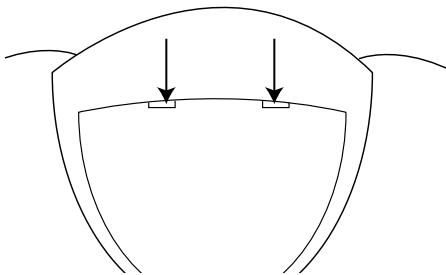
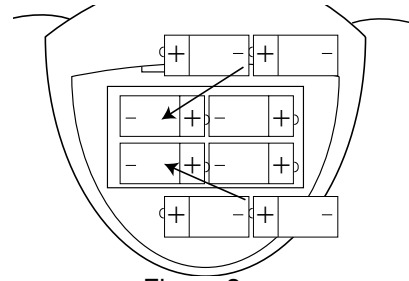

Figure 1
Figure 2
Remove the Battery Compartment cover on the bottom of the unit by pressing in the two tabs (see figure 1) and lift the battery door off. Insert eight (8) "C" cell batteries (not included), observing the battery polarity indicated inside the compartment and in figure 2. Replace the Battery Compartment cover.